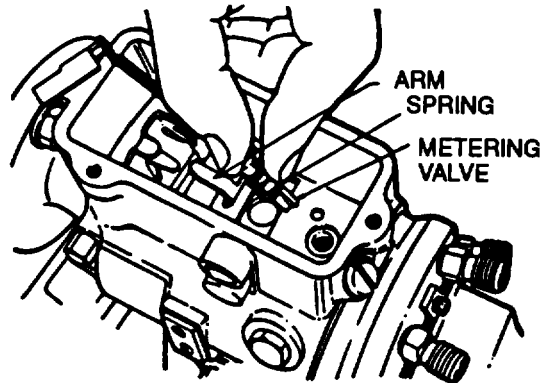

FIGURE 3-48. Removing Metering Valve (Typical)
- m. Remove metering valve and arm (45), shim (48), and spring (49) from housing, refer to FIGURE 3-48.